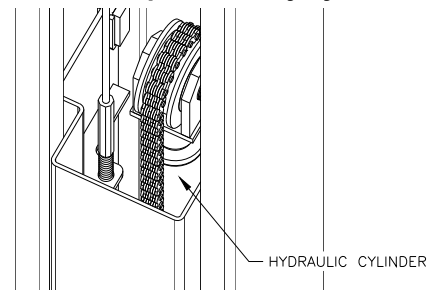

Fig 5-Cable Assembly
- 8) Shim both columns to plumb using the shims provided as shown in **Fig. 5**. DO NOT shim more than 1/2" at any given point. Use a level no less than 24" in length to plumb columns.
Ensure that the top of the hydraulic cylinder is still retained in the opening of the top plate of the carriage as shown in Fig 5.